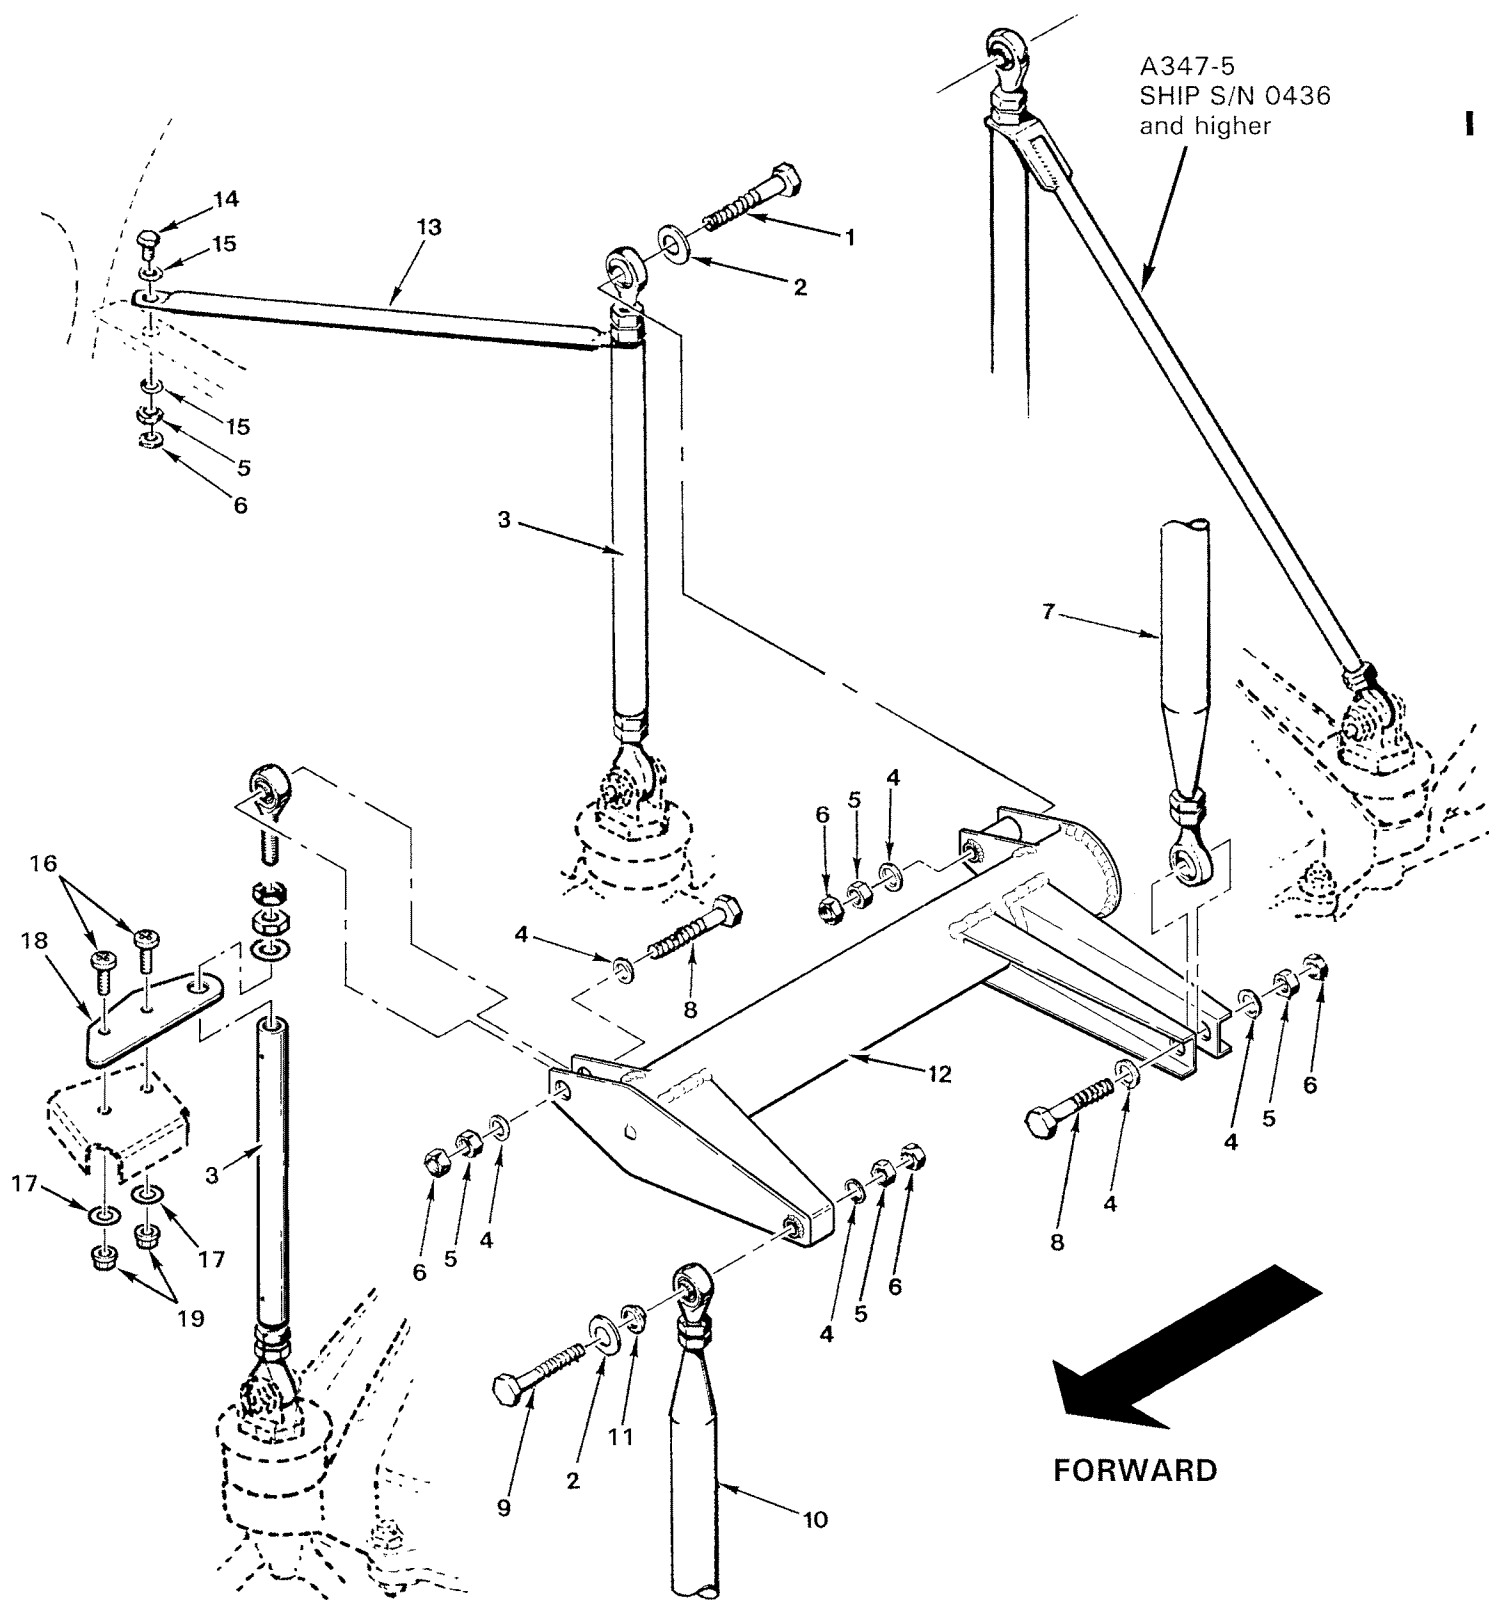

FIGURE 8-9 JACK SHAFT INSTALLATION
8.310 Jackshaft (See Figure 8-9)